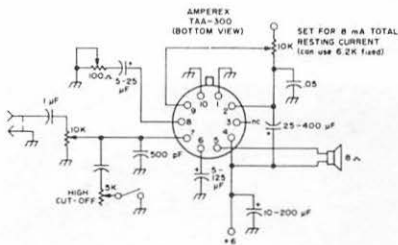

Fig. 13. Audio amplifier IC.
**Audio Amplification.** Just for new readers we'll give a quickie on the Amperex TAA-300 1W "baby-hi-fi" IC which I now use for almost every audio purpose in receivers, and modulators up to a watt. There are about 11 transistors in that one little can, and it is flat to 1 dB from 25 Hz to 25 kHz! Get a halfway decent 8Ω speaker to go with it, because it's worth it. Figure 13 shows how to connect it up.